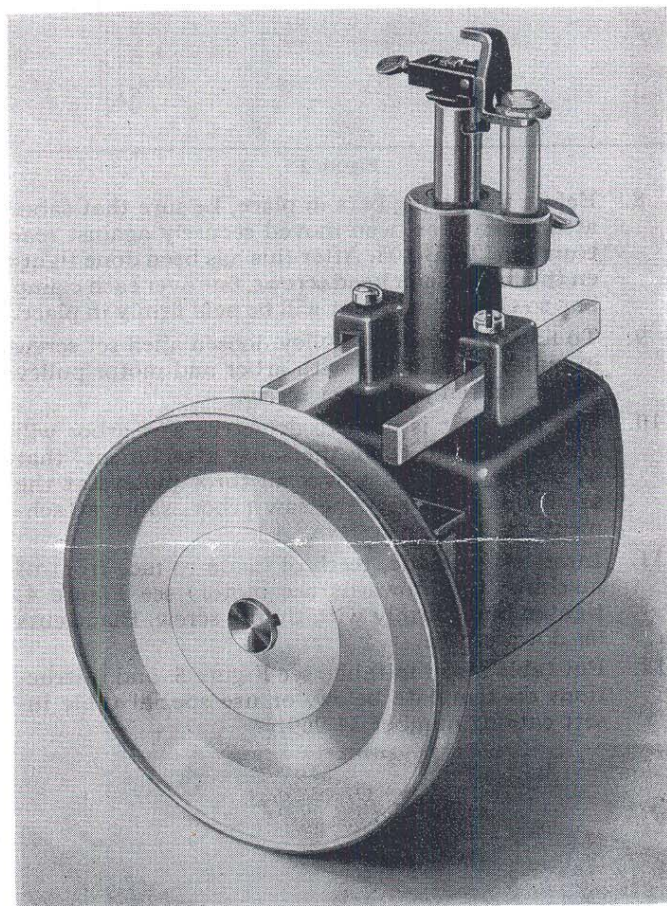

Figure 1
Under catalog number 40-800 the customer receives the attachment as shown in Figure 1 with 6-inch diameter drive shaft pulley #49-181, a rubber bumper and two saber blades.
3. Insert guide post assembly NSS-347-S including guide post, washer, blade guide and cap screw. See Figures 1 and 6. Guide post held in position with thumb screw SP-1528. Be sure to assemble proper blade guide for saber blade that will be used. Width of slot in blade guide determines this.